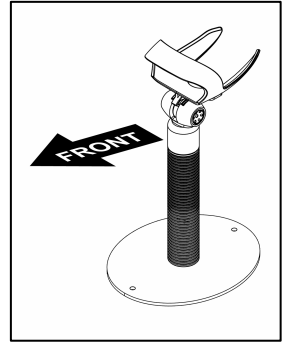

Figure 12.
2. When choosing the stand location, make sure to consider the front orientation of the stand (indicated in *Figure 12*).